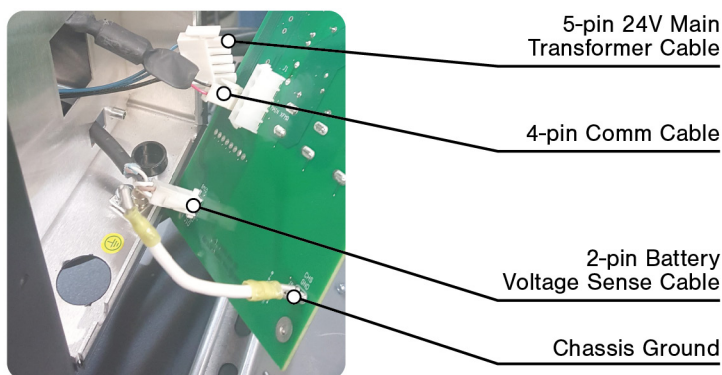

Figure 8: Backplane Cables and Connectors
8. See Figure 8. Tilt backplane board to expose connectors on the opposite side.